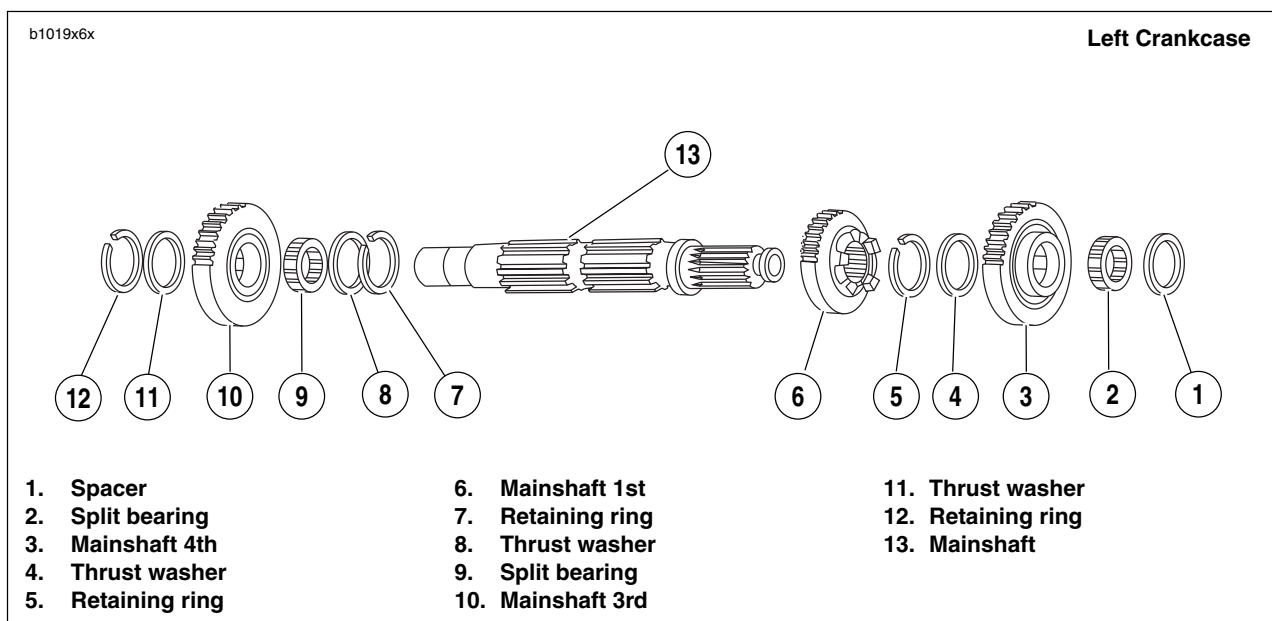

Figure 6-65. Transmission Mainshaft Assembly Once Removed from Left Crankcase/Disassembly
- See Figure 6-65. Remove spacer (1), mainshaft 4th gear (3), split bearing (2) and thrust washer (4) from the threaded end of the mainshaft.
- On the mainshaft, between mainshaft 1st gear (6) and mainshaft 3rd gear (10), use RETAINING RING PLIERS (Part No. J-5586) to expand retaining ring (7) and move next to mainshaft 1st gear along with thrust washer (8).
- Move mainshaft 3rd gear (10) as far as possible toward mainshaft 1st gear (6).
- Expand retaining ring (12) at opposite side of mainshaft 3rd gear (10) and slide off end of mainshaft with thrust washer (11).
- Remove mainshaft 3rd gear (10) and its split bearing (9).
- Slide thrust washer (8) off end of mainshaft.
- Expand retaining ring (7), which is next to mainshaft 1st gear (6), and slide off end of shaft.
- Remove mainshaft 1st gear (6).
- Expand retaining ring (5) and remove.